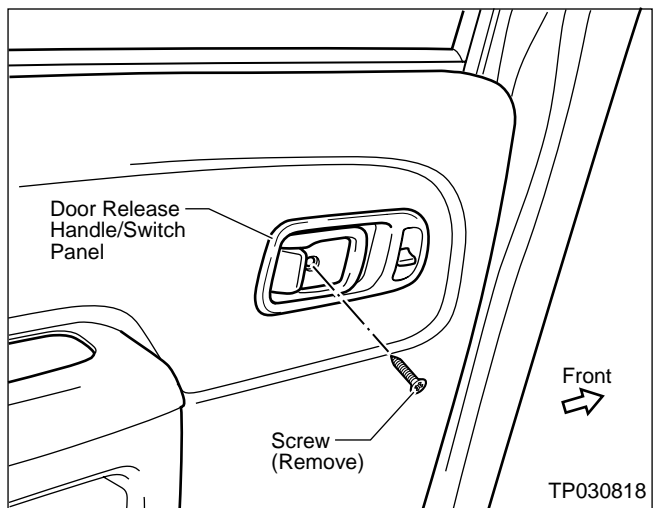

Figure 40
2. Remove the Screw from the Door Release Handle/Switch Panel (see Figure 40).